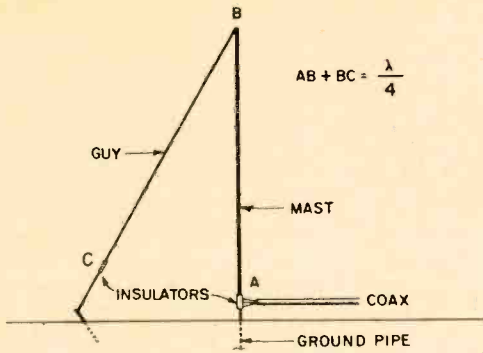

Fig. 1—Single guy wire (BC) is connected to 20-foot mast (AB) to form quarter-wave arm of antenna; second arm improves bandwidth, guying.
Each of the Mainmast's guys, when added to the length of the vertical, represents a quarter-wave antenna. Thus in Fig. 1, we would add the 20-foot length of the vertical (AB) to the length of the single guy (BC) to find its electrical wavelength. The mast length also would be added to the guy on the opposite side. In other words, the mast forms part of each quarter-wave arm of the antenna.